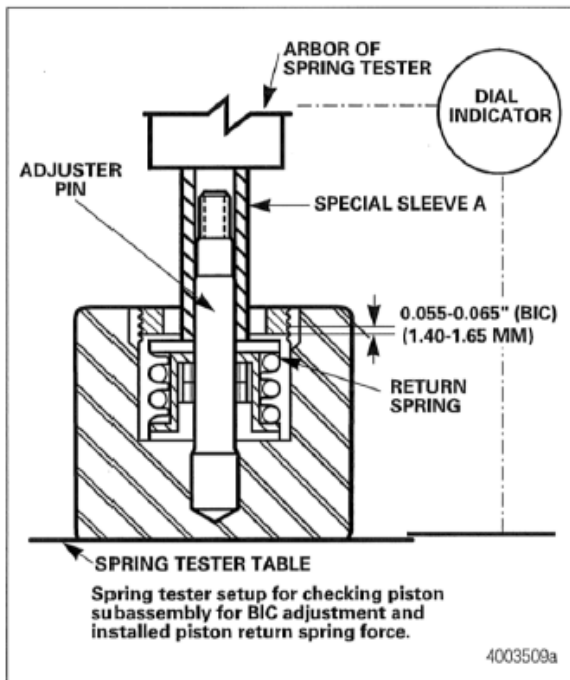

Figure 4.1
1. Place the piston subassembly onto a spring tester table. Install special sleeve Figure 5.3. over the exposed adjuster pin. Figure 4.1.
3. Lower the spring tester arbor to compress the spring to minimum height. Figure 4.1. The indicator pointer will stop rotating.